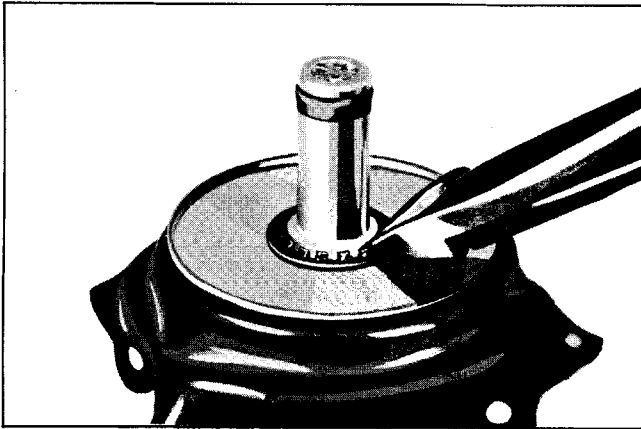

Fig. 4-40 Removing Diaphragm Retainer
1. Remove diaphragm retainer with diagonal pliers and discard retainer (Fig. 4-40).